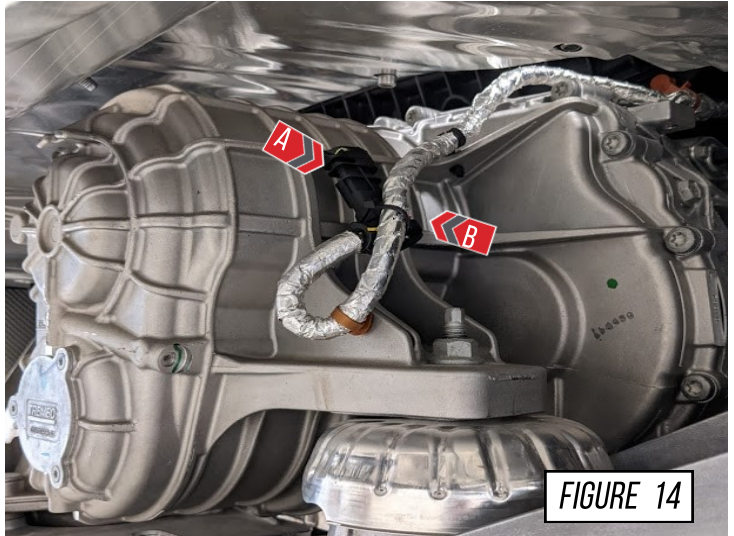

FIGURE 14
Using the supplied zip tie to secure it into place, as shown at point (B) in **Figure 14**.